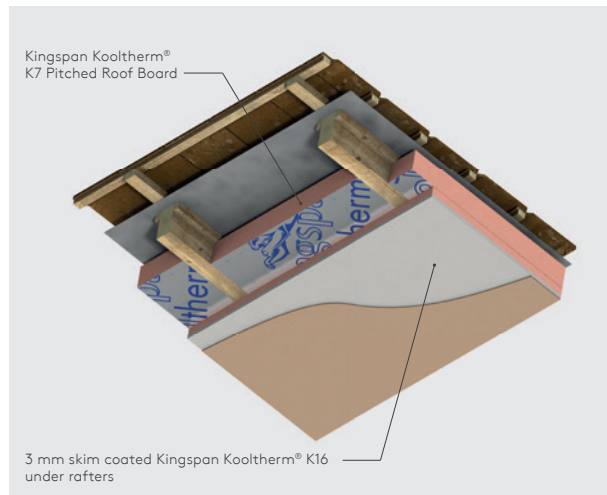

Figure 3 - Mechanically Fixed to Timber Rafters with Kingspan Kooltherm® K7 Pitched Roof Board Between Rafters
- Sheets of Kingspan Kooltherm® K16 may be used to line ceilings (see Figure 3).